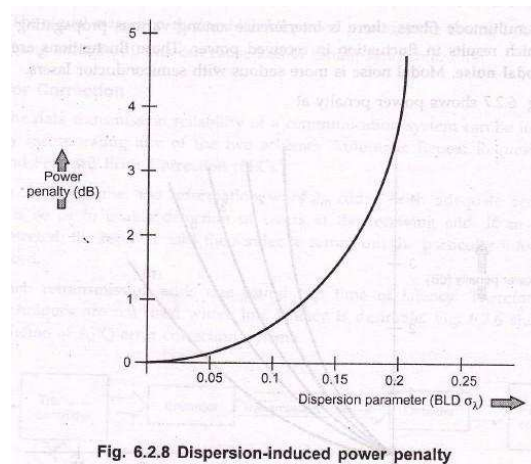

Fig. 6.2.8 Dispersion-induced power penalty
- x Receiver sensitivity is degraded by Group Velocity Dispersion (GVD). It limits the bit-rate distance product (BL) by broadening optical pulse.
- x Fig. 6.2.8 shows dispersion-induced power penalty of Gaussian pulse of width  $\sigma_\lambda$ .